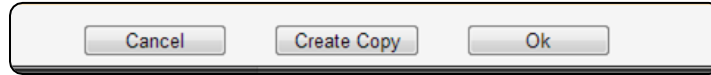

Figure 2-20. Setup Standard Report Dialog Box (Excerpt) – Buttons
8. In the Setup Standard Report dialog box, use buttons provided (Figure 2-20) to apply updates (**Ok**) or exit the screen as follows (Table 2-9).